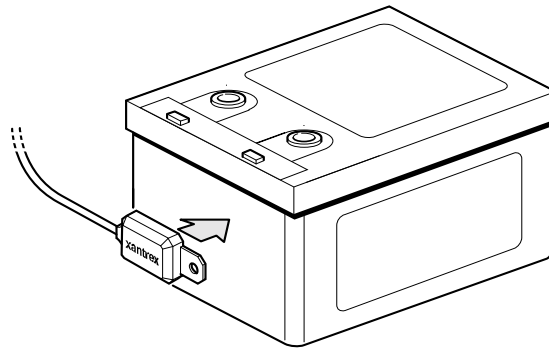

Figure 16 BTS Mounted on the Battery Case
See Figure 16.
5. Press the sensor firmly against the clean side of the battery to fix it in place, as shown in Figure 16.